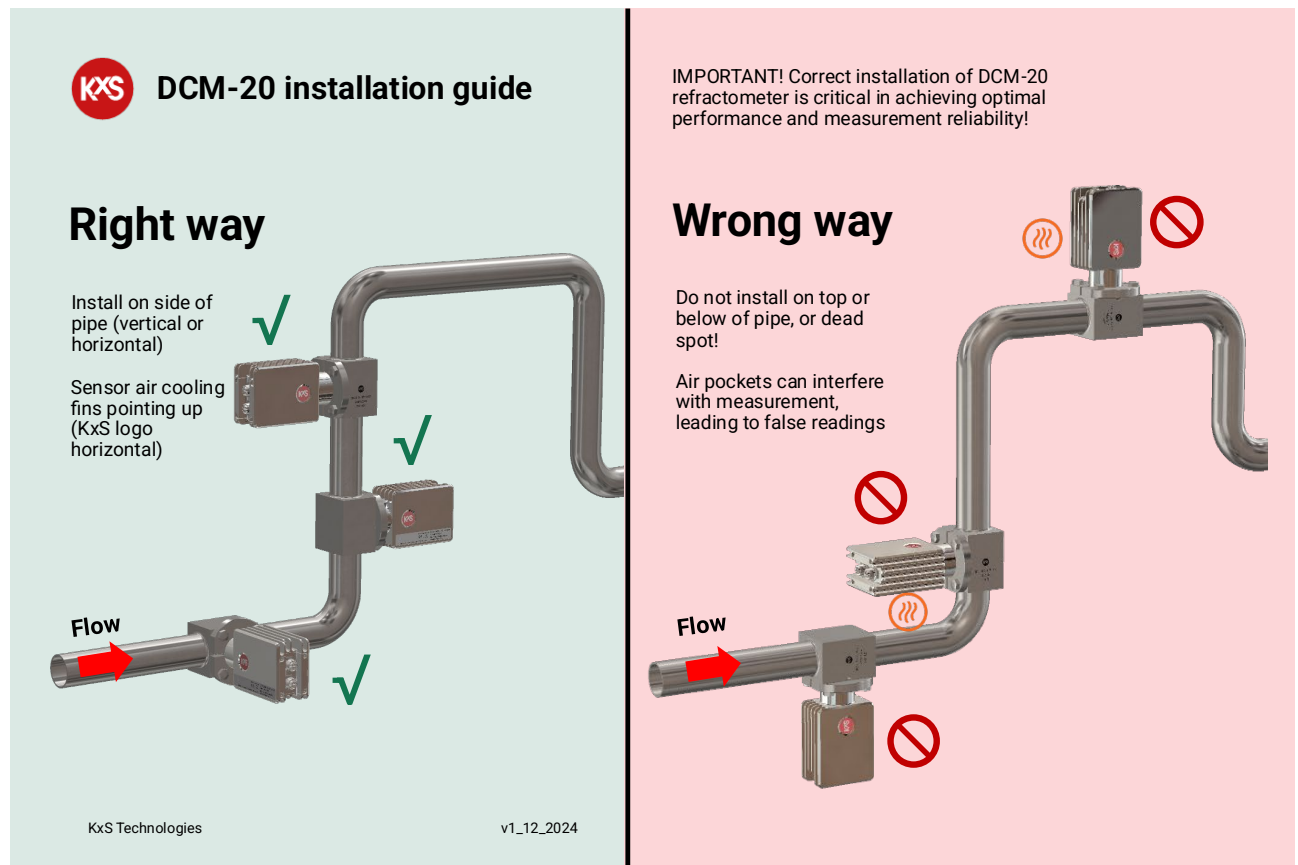

Figure 24 Sensor installation in process pipe: Right and wrong way.
For pipe installation, always select straight section of the pipe. Secure at least 10 times the pipe diameter (D) of straight pipe before and after the installation point to achieve laminar flow and optimal sensor self-cleaning performance (see Fig. 24).
**⚠ WARNING:** Do not install sensor on the top or bottom of a horizontal pipe (see Fig. 24, Wrong way). **Measurement reliability is compromised.** Air pockets in partially filled pipes can significantly affect the reliability of refractometers installed on top.